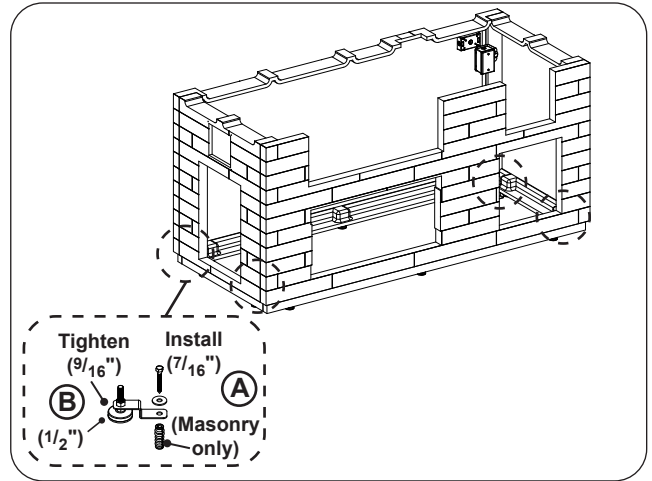

Fig. 11-1 Mount island
1. Secure the island to the floor using the 4 pre-installed mounting brackets. Use a $\frac{7}{16}$ " open end wrench and the supplied mounting hardware as appropriate. See Fig. 11-1, A.
Finish by tightening down the brackets. Hold a leveler in place (below bracket) with a $\frac{1}{2}$ " open end wrench, and tighten the nut (above bracket) using a $\frac{9}{16}$ " open end wrench. See Fig. 11-1, B.